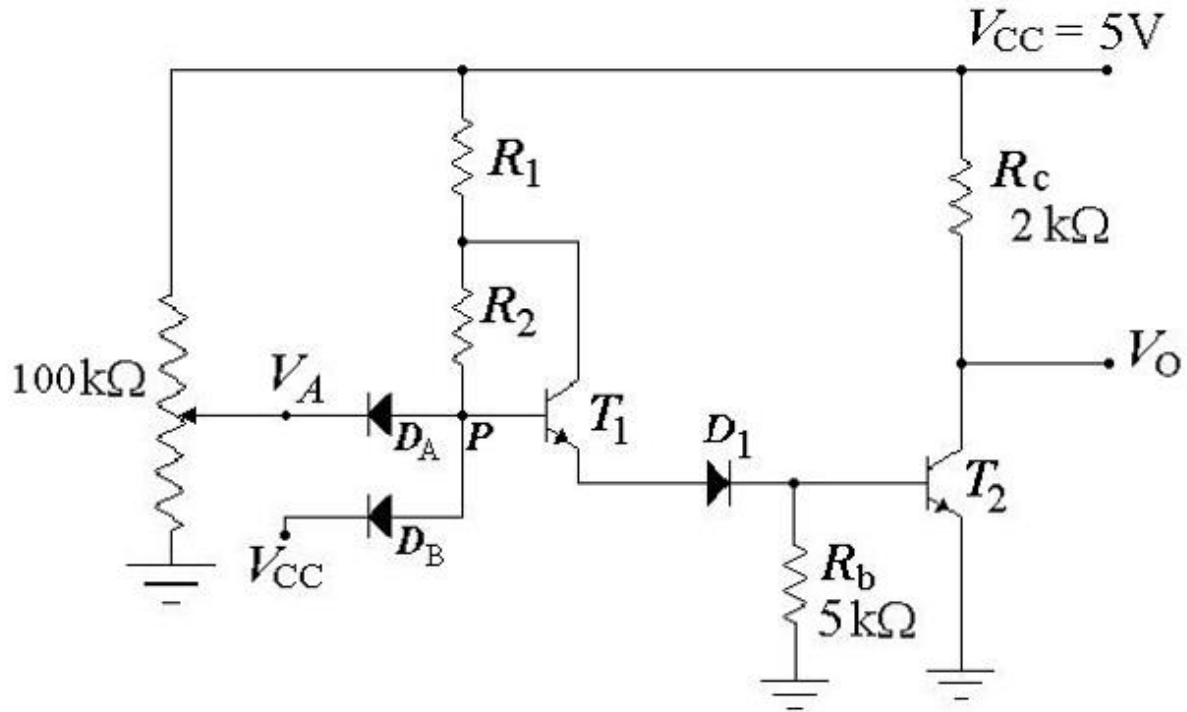

Figure 2 : Circuit for input  $V_A$  through potentiometer.
4. Connect the 100 kΩ potentiometer to input  $V_A$  as shown in the Figure 2. Increase the input voltage  $V_A$  from 0 to 5 volts in small steps and for each step record the output voltage  $V_O$  in Table II. Note: You may need to record some additional readings around the cut-in voltage.
6. Remove the potentiometer from the circuit of figure 2. Connect  $V_A$  to ground logic '0' through an ammeter. Measure the current passing through diode  $D_A$ .
7. Disconnect the ammeter, and connect  $V_A$  to  $V_{CC}$  logic '1'. Measure the voltage at point P, shown in Figure 2.